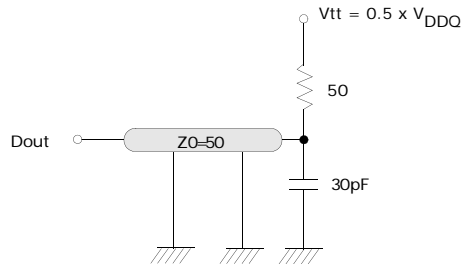

Figure 31.1 PAR Mode Execution and Exit
- Output load (See Figure 31.1): $CL=30pF$